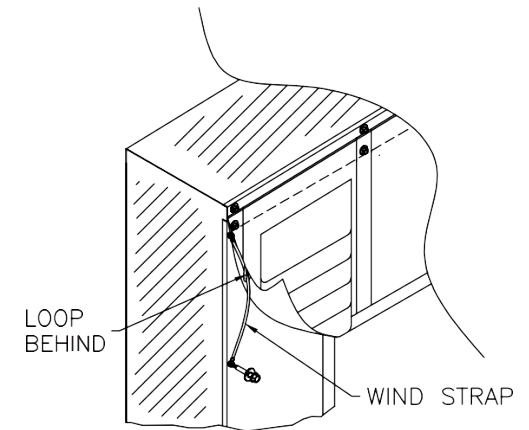

FIG 20
- Thread Wind Strap through Header Curtain (Figure 20).